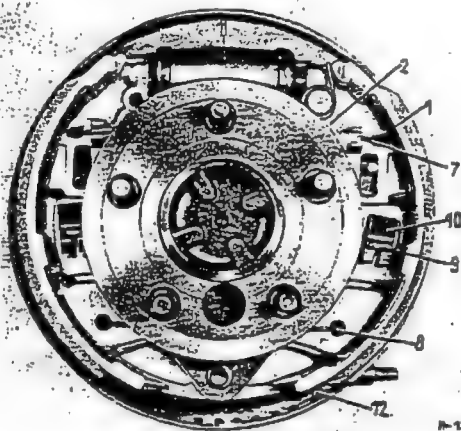

Fig. 42-9/12
18. Attach the lower return spring (8) (Fig. 42-9/12).